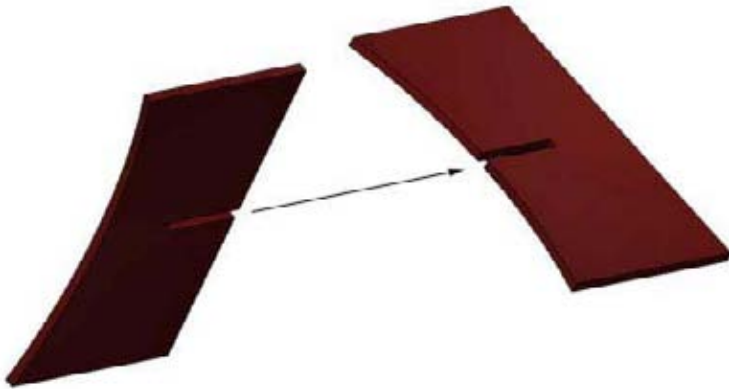

Figure 1a
1. Locate the back panel and insert the front panel at roughly a 45 degree angle. The slot on the front panel should fit directly over the slot on the back panel. (**Figure 1a-b**).